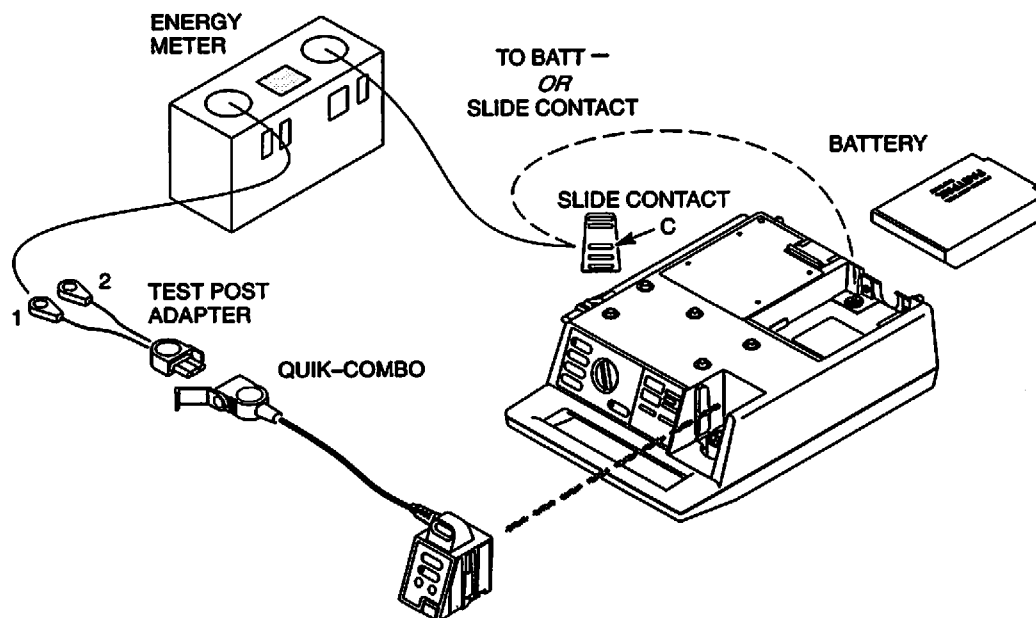

Figure 3-3 Connections for defibrillator insulation check
- 3 Connect the defibrillator as shown in Figure 3-3.